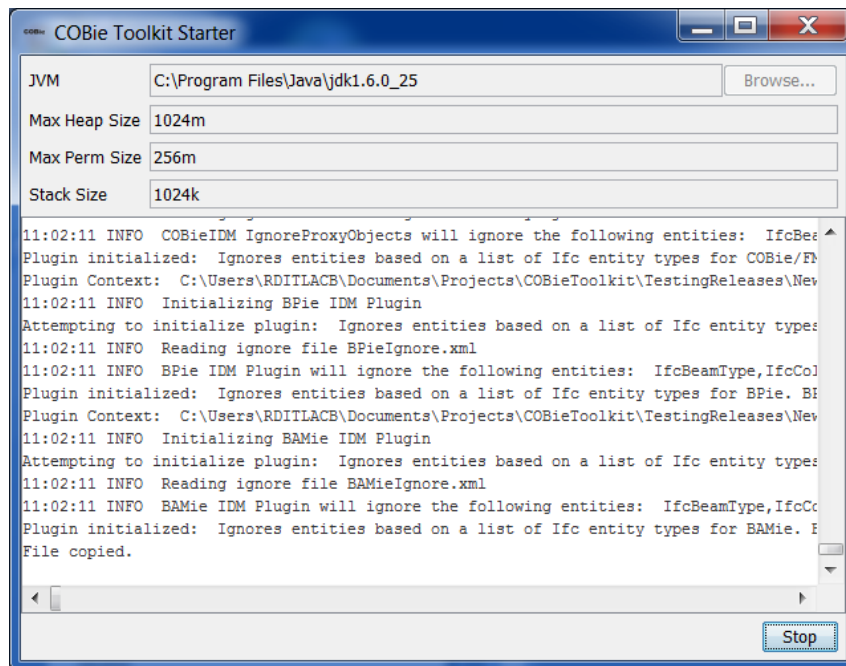

Figure 9: COBie Toolkit Starter Window After Start Button Click
2. Click the Start Button, and after initialization (see Figure 9) the COBie Toolkit window will appear